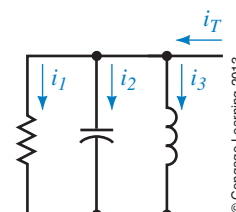

FIGURE 16-51
16. For Figure 16-51, $i_T = 38.08 \sin(\omega t - 21.8^\circ)$ A, $i_1 = 35.36 \sin \omega t$ A, and $i_3 = 28.28 \sin(\omega t - 90^\circ)$ A. Determine the equation for i_2 .